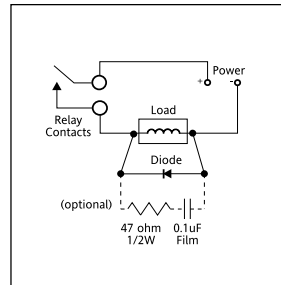

Figure 2: DC Inductive Loads
When switching inductive loads, maximum relay life and transient EMI suppression is achieved using external protection (see Figures 2 and 3). Place all protection devices directly across the load and minimize all lead lengths. For AC inductive loads, place a properly rated MOV across the load in parallel with a series RC snubber. Use a 0.01 to 0.1uF pulse film capacitor (foil polypropylene recommended) of sufficient voltage, and a 47 ohm, 1/2W carbon resistor. For DC inductive loads, place a diode across the load (PRV > DC supply, 1N4006 recommended) with (+) to cathode and (-) to anode (the RC snubber is an optional enhancement).
- Note: External relay contact protection is required for use with inductive loads (see Figures 2 & 3).*